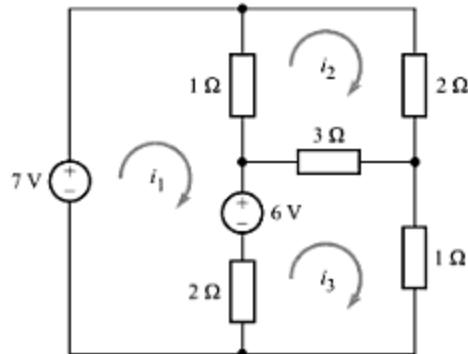

Fig. A-29
Figure A-29 shows a three-mesh circuit. Use mesh analysis to determine the three mesh currents.
**Solution** The three mesh currents are assigned clockwise directions, as shown in Fig. A-29. We can either apply KVL around the three meshes, or to save time and avoid errors, we can directly write the mesh equations by inspection as follows: